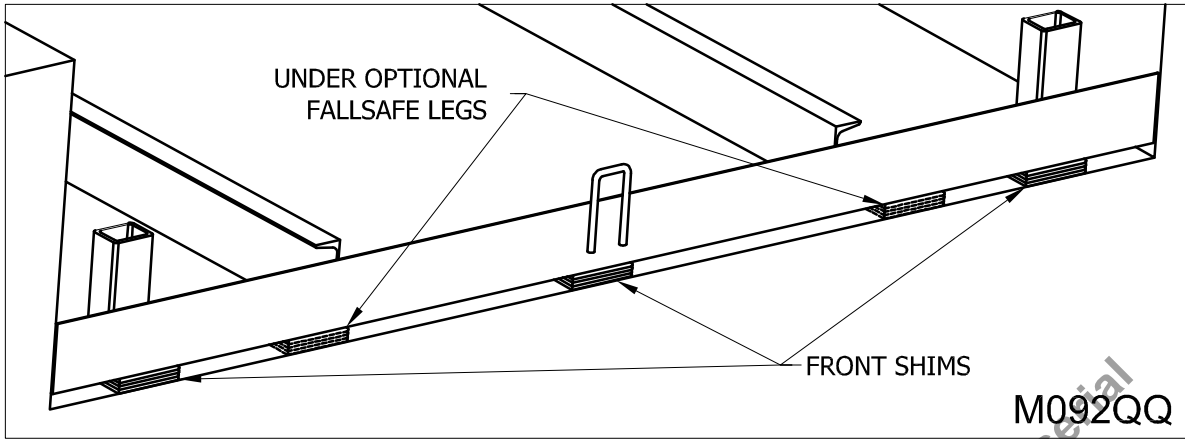

Figure 31: Front Angle & Deck Stop Shims
1. ___ Front angle shims. (See "Figure 31: Front Angle & Deck Stop Shims" on page 30)
2. ___ Deck stop shims. (See "Figure 31: Front Angle & Deck Stop Shims" on page 30)